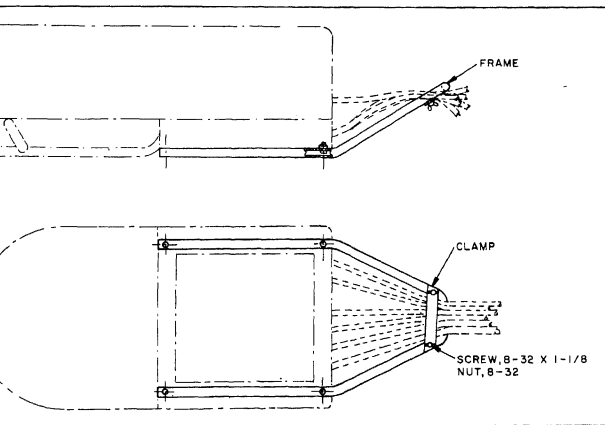

Figure 9. Anchoring Cable and Hoses on Strain Relief
c. Anchor cables and hoses and flexible shaft on strain relief (Fig. 9) to prevent straining at connection points to the Feeder as follows: